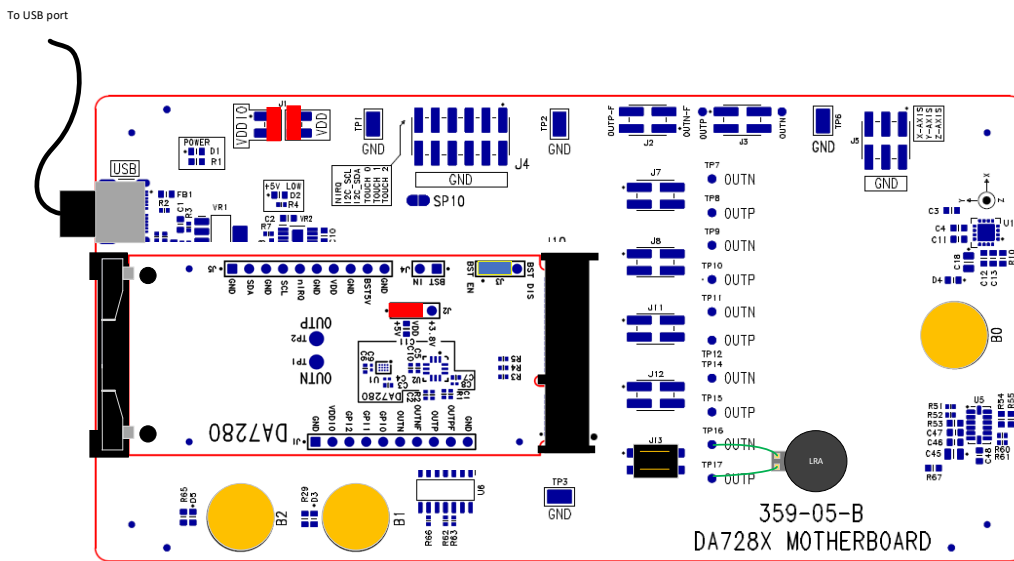

Figure 3. DA728x motherboard operation with LRA attached to DA728x motherboard
4. If the LRA is attached to the DA728x motherboard as shown in Figure 3, ensure that the jumper is attached to J11 on the DA728x motherboard so that the DA7280 daughterboard is connected to the attached LRA. This is the recommended method of LRA attachment if performance measurements are being made with the onboard accelerometer.